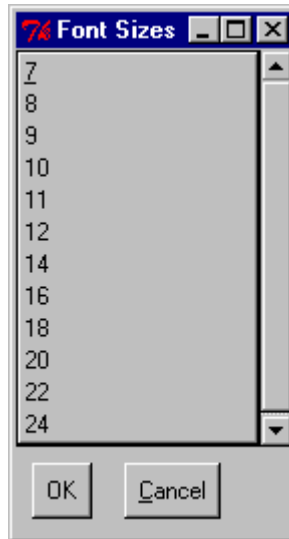

Figure 5-8. Font Sizes Selection Dialog Box
3. *Click Size. . .* The Font Sizes selection dialog box appears. Figure 5-8 shows the Font Sizes selection dialog box.